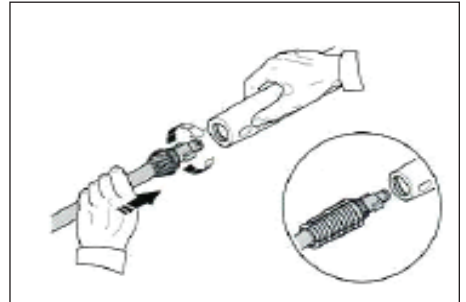

Figure 19 - Gun/lance connection
- Insert lance into the gun and turn clockwise to positive stop as shown in Figure 19.